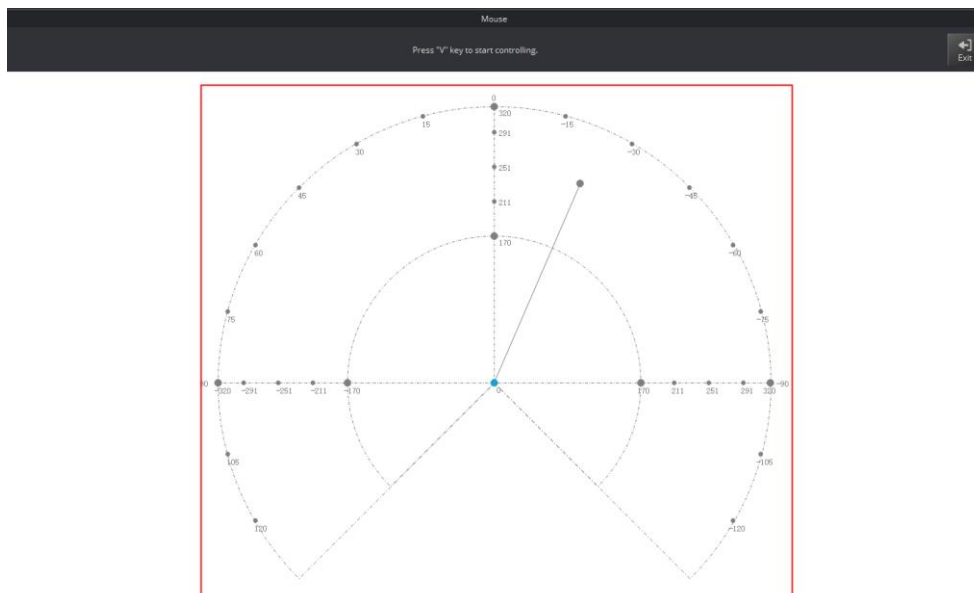

Figure 5.102 Move the robotic arm in the red annular area
- Step 2** Press **V** to enable the mouse control of the Dobot Magician. Press and hold the left mouse button to drag the mouse within the annular area to move the robotic arm, as shown in Figure 5.102.